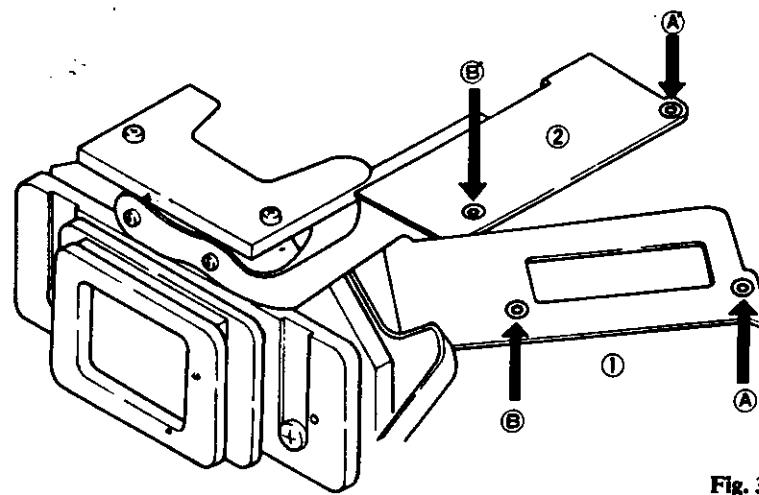

Fig. 33
- 12) Put A' portion of CIRCUIT BOARD (No. 2) upon A portion of CIRCUIT BOARD (No. 1) shown in Fig. 33 and put B' portion upon B portion.
- 13) After setting the CIRCUIT BOARDS (Nos. 1, 2) as shown in Fig. 33, solder seven parts cleanly.